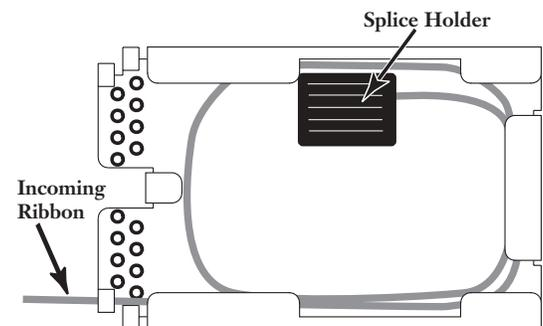

Figure 6 — Loop Ribbon Inside Tray
7.7 Make one and one-half loops of fiber inside the tray to the splice holder (Figure 6).
8.5 Loop the ribbon fiber as shown in Figure 6. Use the routing clips to stabilize the ribbon.